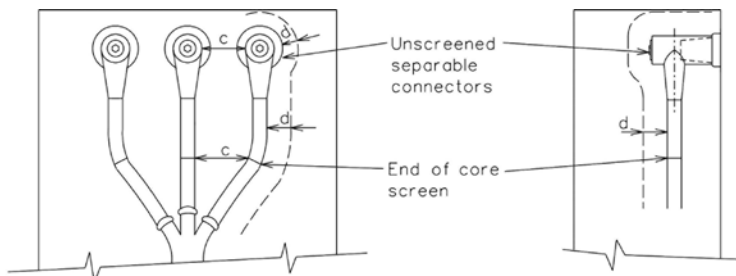

Figure 10: Unscreened separable connector termination (Type 3).
- Type 3 termination - unscreened separable connector terminations, see *Figure 10*